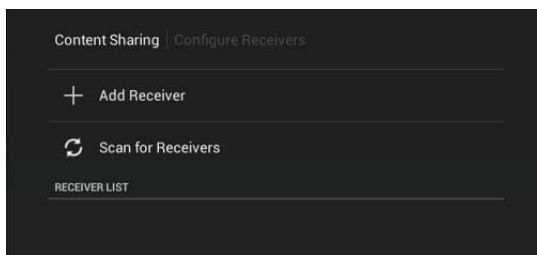

FIG. 36 Content Sharing page - Configure Receivers Options window
In the *Content Sharing* page, press **Configure Receivers** to invoke the *Configure Receivers Options* window (FIG. 36):
1. In the Content Sharing page - *Configure Receivers Options* window (see FIG. 36 on page 32), press **Scan for Receivers**. This initiates a scan of the local network for Enzo units.
1. In the Content Sharing page - *Configure Receivers Options* window (FIG. 36), press **Add Receiver**. This invokes the *Configure Receiver* window and on-screen keyboard.